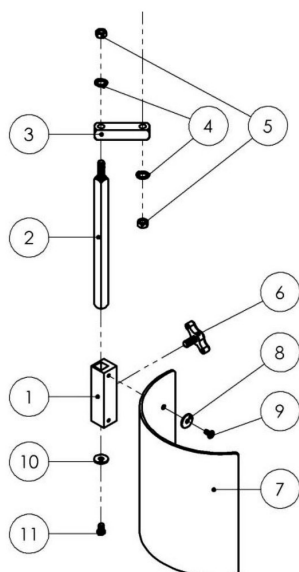

FIG. 4.11
12. Install the belt cover knob in its place (Fig. 4.11)